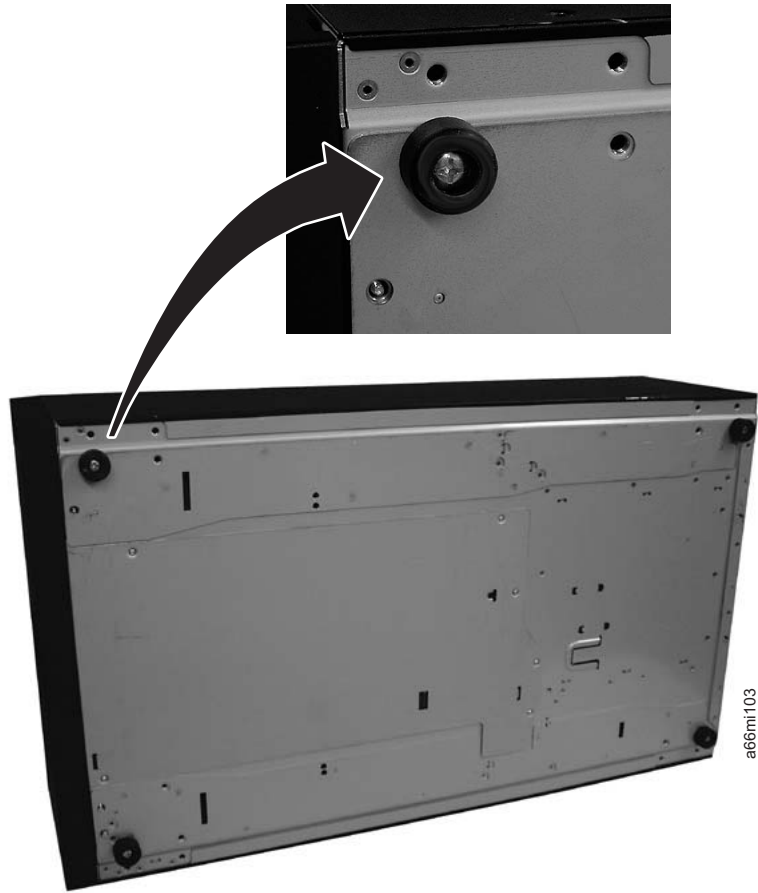

Figure 4-17. Foot pad locations
2. With a #2 Phillips screwdriver, install the foot pads on the bottom of the library chassis. See Figure 4-17 on page 4-15 for foot pad locations.